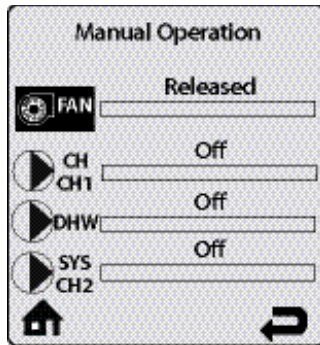

Fig. 6: Controls display
4. Press the center button while the FAN icon is highlighted to manually fire the burner and power the CH circulator. See Fig. 6